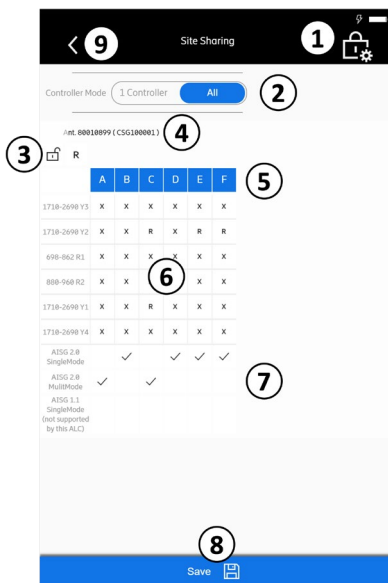

Fig. 105: Sharing: Operating the site sharing adapter settings
1. Tap ① in Fig. 105 to open the Password Options.